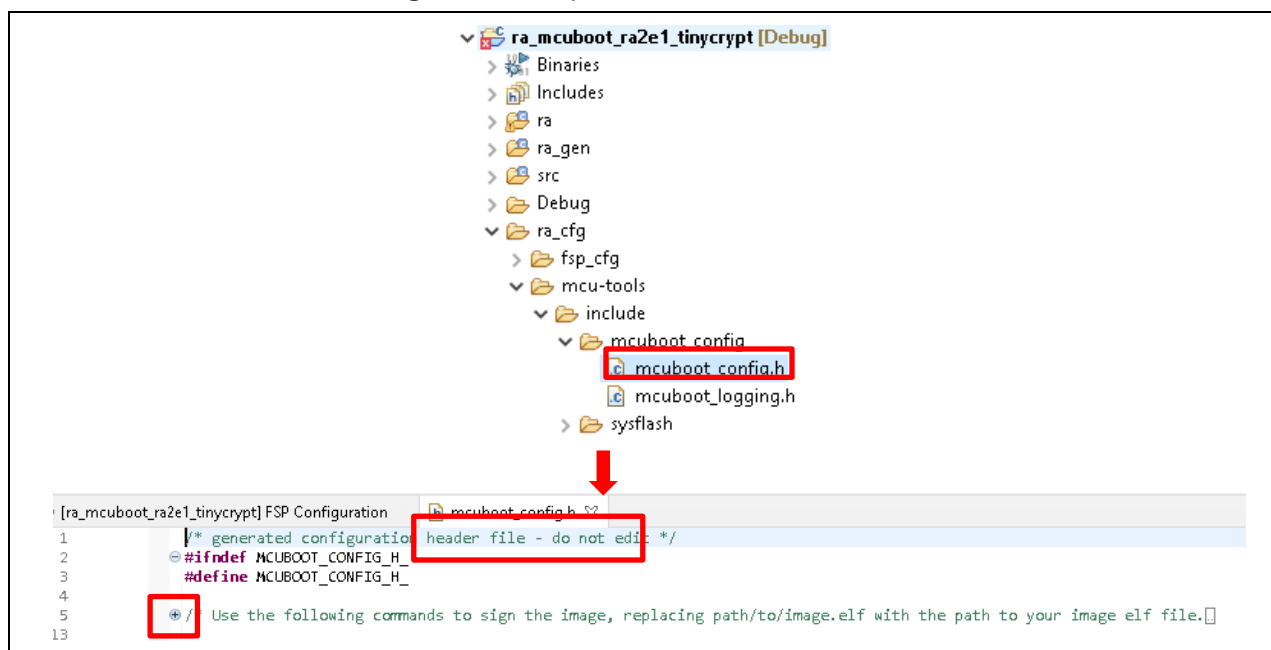

Figure 26. Open mcuboot_config.h
2. Expand the comment block in red in Figure 26. Type **ctrl+F** to open the **Find/Replace** dialogue box and input the key words in the quotation marks (please do not include the quotation mark). Input **<boot_project>** and set **Replace All** with **\${workspace_loc:ra_mcuboot_ra2e1_tinycrypt}**. **Do not add any spaces before or after the key words in bold when inputting into the Find/Replace dialog.**